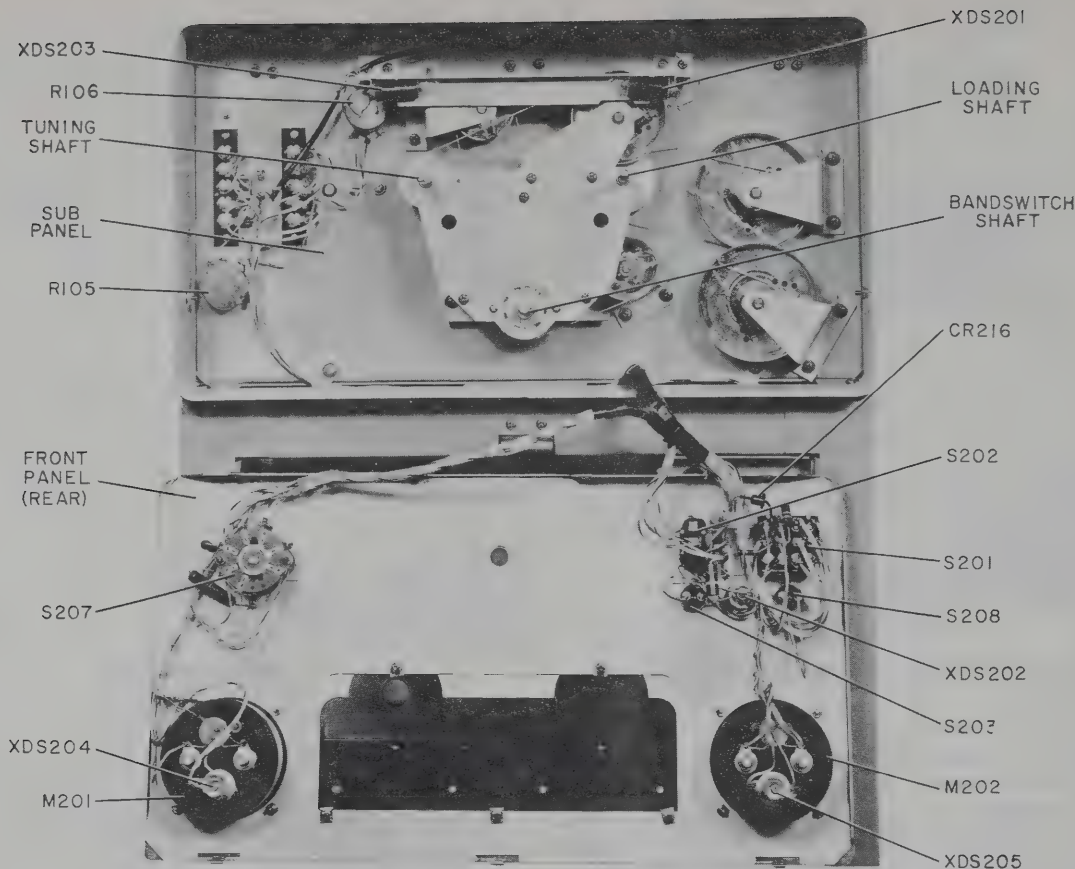

Figure 12. 30S-1, Front Panel Lowered and Subpanel Exposed
5.7 DIAL CORD REPLACEMENT. Refer to figures 12 and 13. Remove all control knobs. Remove the flat-head screws securing the front panel to the cabinet. These screws are arranged across the top front and bottom front edges of the cabinet. The power supply front cover must be removed to gain access to the bottom screws. Do not loosen the screws at the sides of the cabinet. Remove the front panel from the cabinet, exposing subpanel and dial drive assemblies. Remove the broken or defective dial cord, and replace with the proper length of the new cord (Collins part number 432-1009-00). When ordering dial cord, be sure to state the desired length in feet. If possible, measure the required length of the new cord to be
c. Pull the front panel out and allow it to hang by its cable. Refer to figure 12.
d. To replace the dial lamps, slip their clip-on sockets off the ends of the bracket which is mounted above the dials. Replace the dial lamps and slip the clip-on sockets back on the bracket. Refer to figure 12.